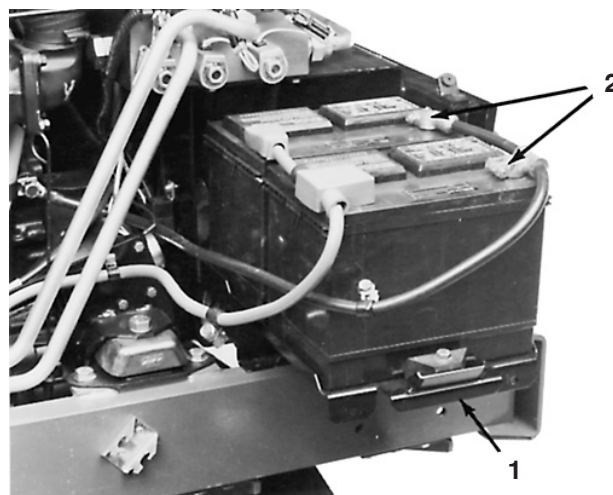

Figure 56
2. Remove capscrews securing battery tray to machine and slide tray out (Fig. 56).
- Remove negative (-) battery cable connectors from batteries (Fig. 56). Connect a 3 to 4 amp. battery charger to the posts. Charge the batteries at a rate of 3 to 4 Amperes for 4 to 8 hours.